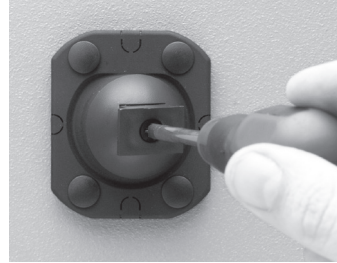

Figure 5.
7. Determine the angle of the speaker by adjusting the bracket base and the H-hook on the half-sphere ball. The H-hook can be adjusted with or without the speaker attached to the hook. Adjust the turning force of the H-hook by tightening or loosening the central screw (Figure 5).